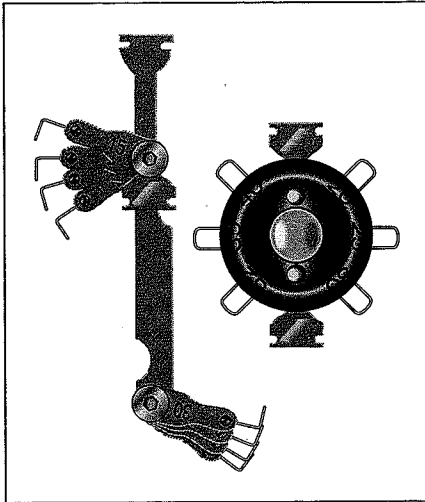

Figure 2-14:
- ✓ **Wire and taper feeler gauges:** You use these gauges for gapping spark plugs (see Figures 2-14 and 2-15). *Gapping* simply means sliding the proper-sized wire or taper gauge between the spark plug electrodes to make sure that the surfaces are the proper distance apart. Doing so ensures that the spark can jump across the gap with the proper intensity.